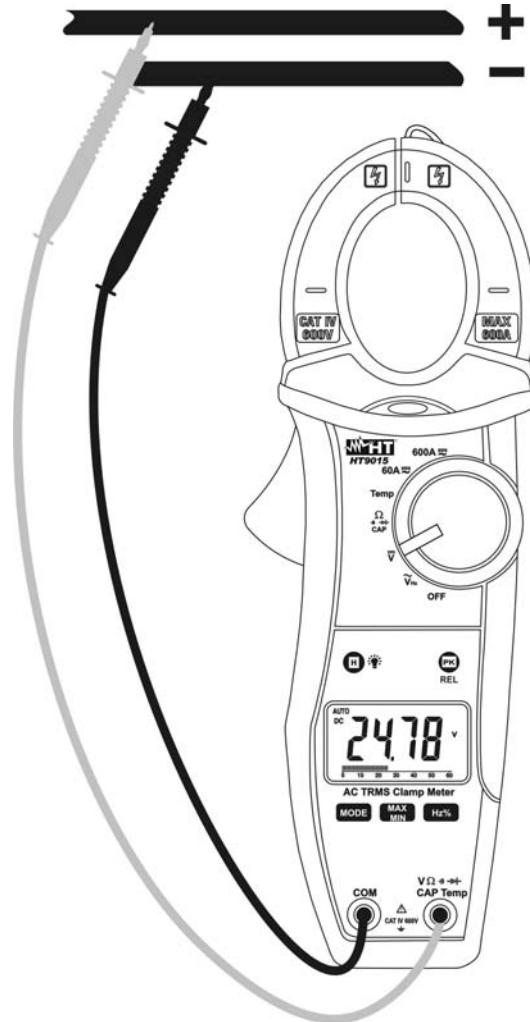

Fig. 4: Taking DC voltage measurements
2. Insert the red test lead plug into **VΩHz** jack and the black test lead plug into **COM** jack (Fig. 4)